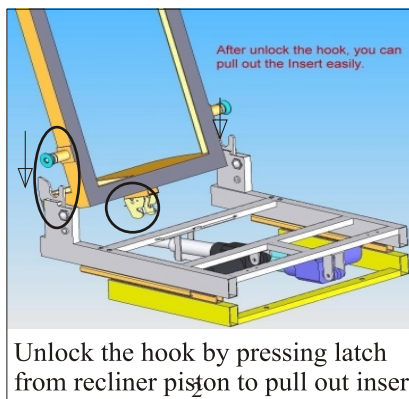

Fig.1
- * On the lower portion of both side of the backrest, there are pivots (Fig.1)